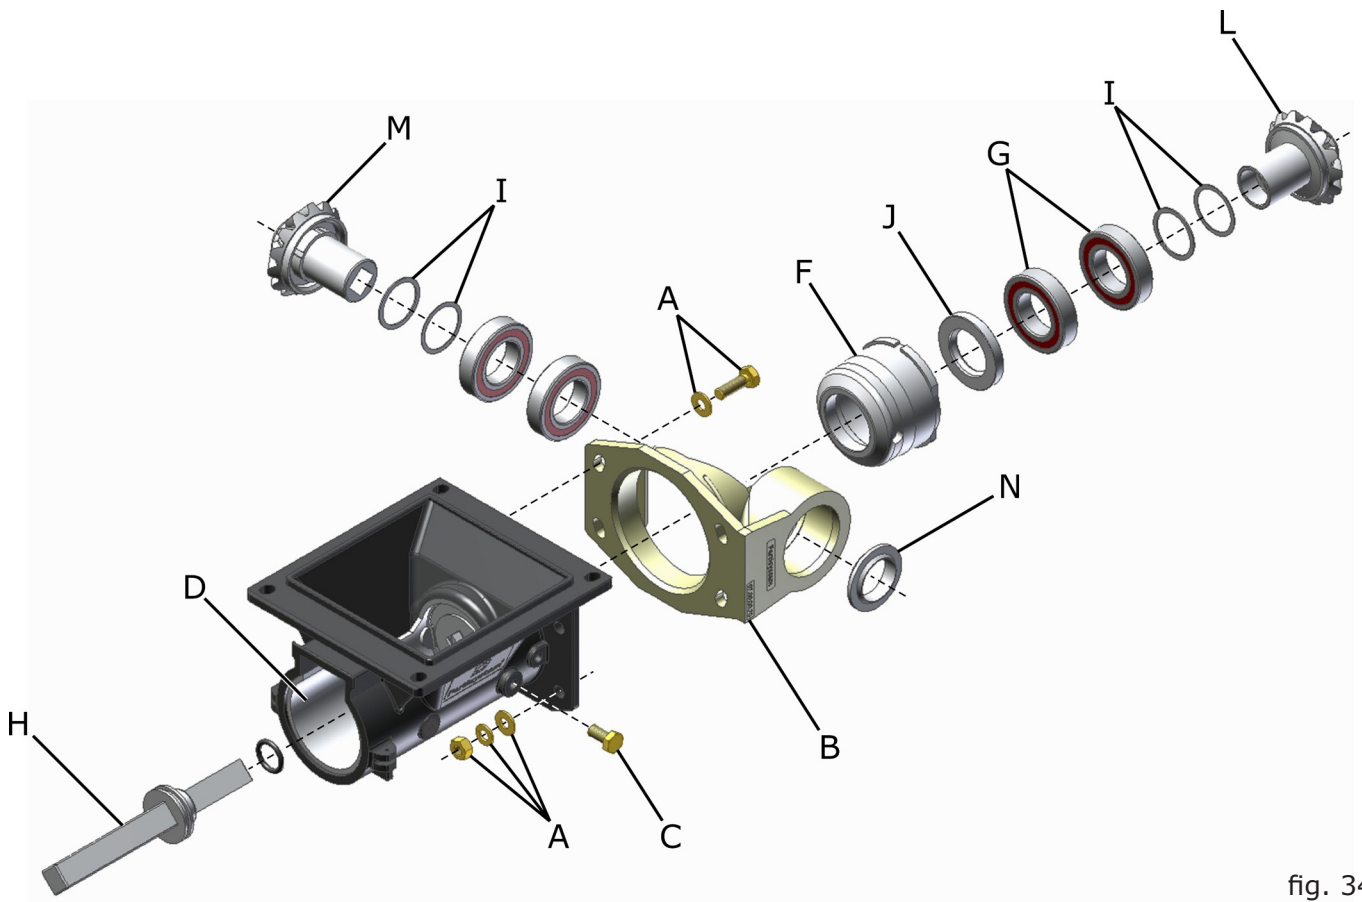

fig. 34
- 2-** Remove the four fixing bolts and nuts (A) (fig. 34) from the transmission pinion bearing bush (B);
- 3-** Loosen and remove the fixing bolts (C) of the coating (D), removing it from the assembly;
- 4-** Remove the bushing (F) and the bearings (G). Remove the drive shaft (H) and remove the bushing from the bearings and the retainer (J) by making the necessary cleaning or replacements;
- 5-** Remove the protective ring (N).
**Care must be taken to ensure that the thrust washers (I) (fig. 34) are assembled, which will provide a larger or smaller space for adjusting the pinions (L and M). If it is necessary to replace the pinions, this must be done from the whole assembly: drive pinion (L) and driven pinion (M).**
**The retainer (J) must be replaced when disassembling it, as it will be damaged in this procedure.**